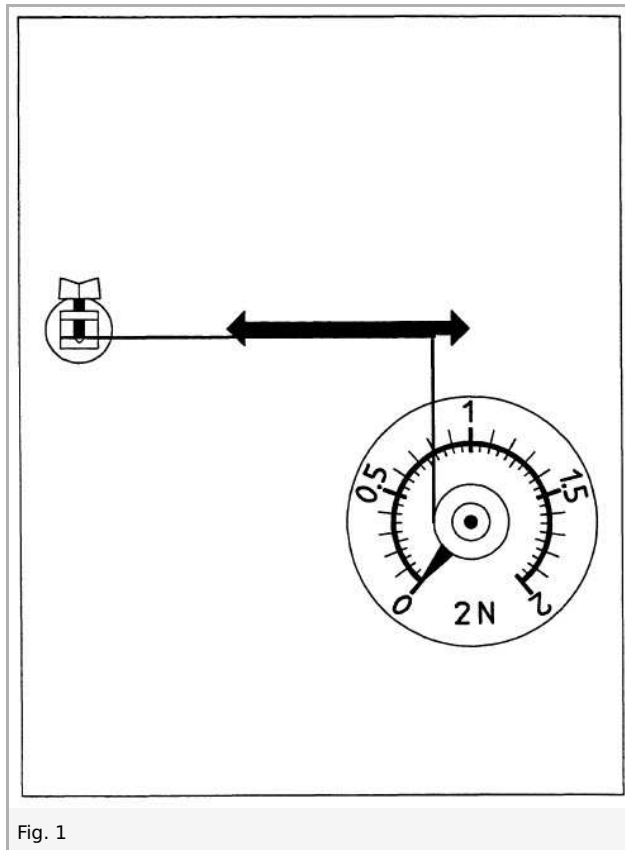

Fig. 1
- Position the two pointers in such a manner that their lateral edges are at the same height as the horizontally positioned leaf spring (Fig. 1).